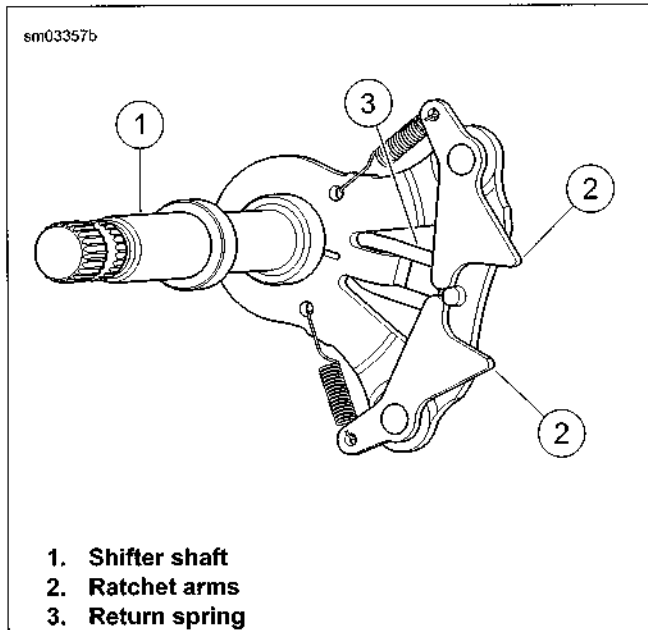
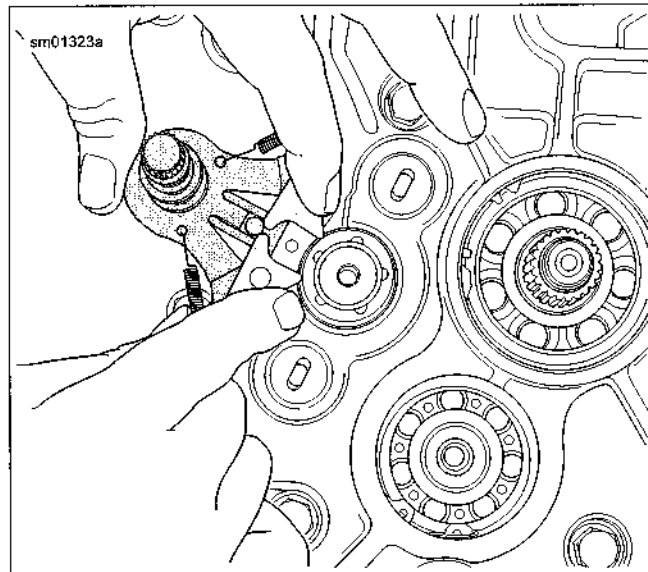

Figure 5-25. Shifter Shaft Assembly
Figure 5-26. Removing Shifter Shaft Assembly
10. See Figure 5-25 and Figure 5-26. Compress ratchet arms (item 2, Figure 5-25) in order to clear shifter drum and remove shifter shaft assembly from left crankcase half.